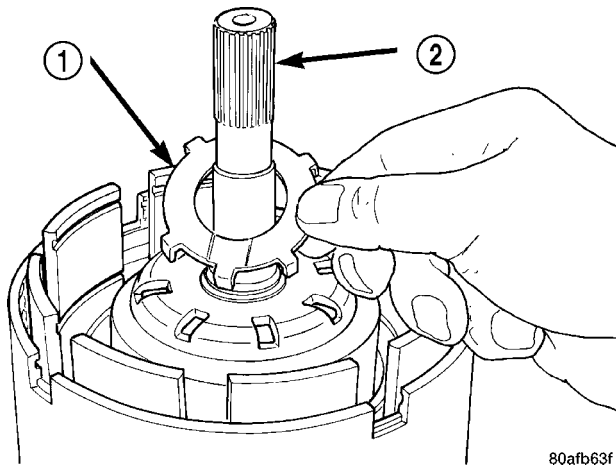

Fig. 275 Install No. 3 Thrust Washer
(39) Install the #3 thrust washer to the underdrive shaft assembly. Be sure five tabs are seated properly (Fig. 275).